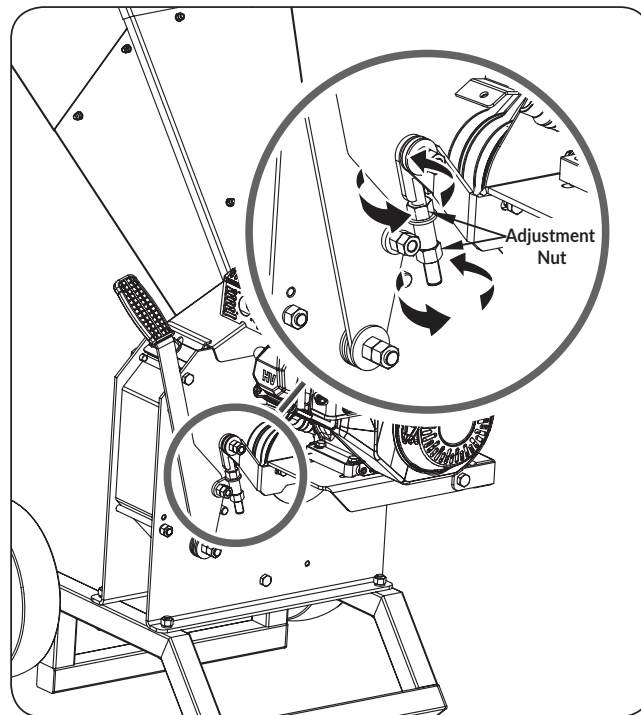

Figure 24
4. Loosen the two M12 adjustment nuts by turning them counter-clockwise and moving them downward to reduce any slack in the V-belts. (See **Figure 24**)